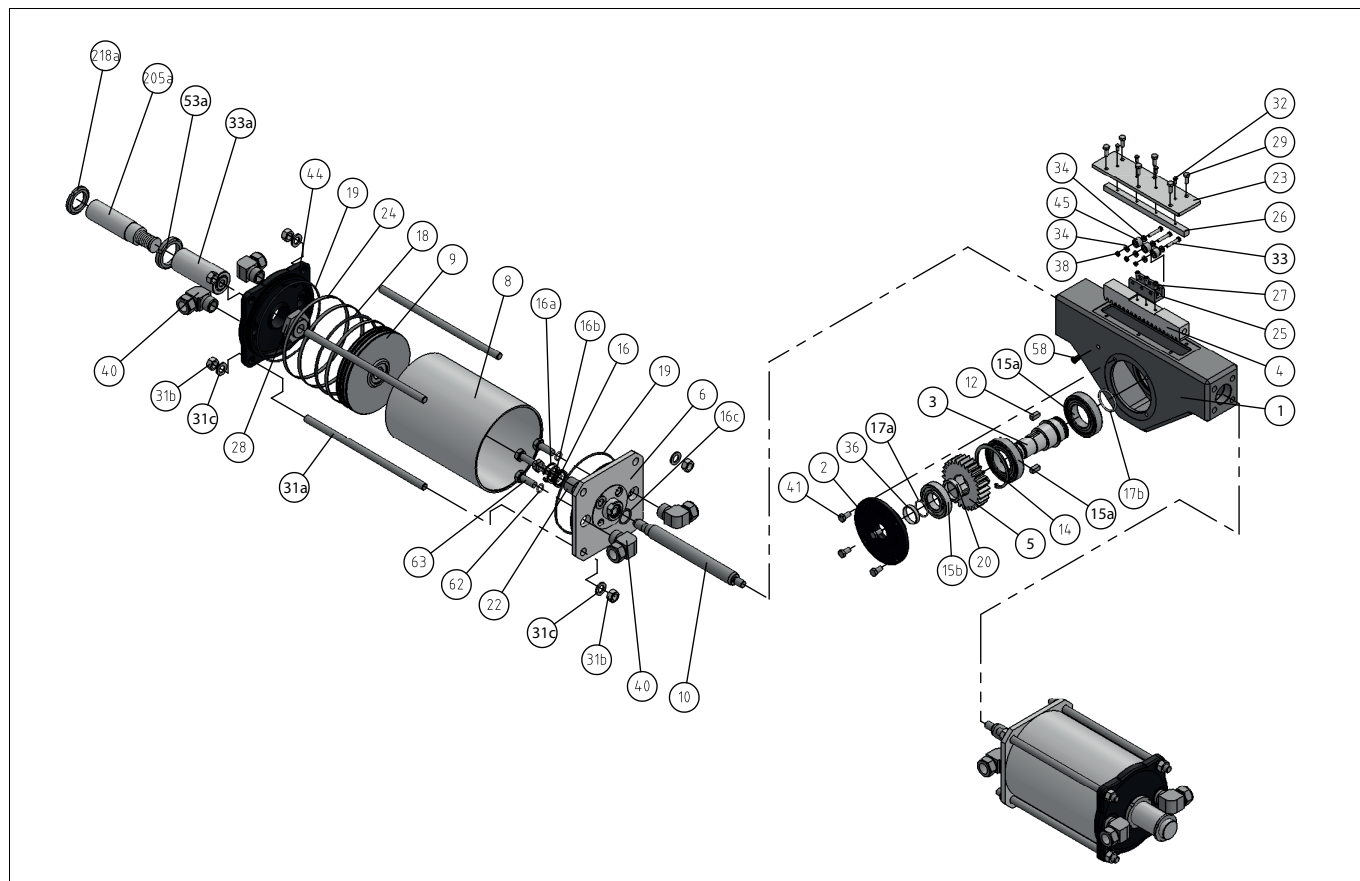
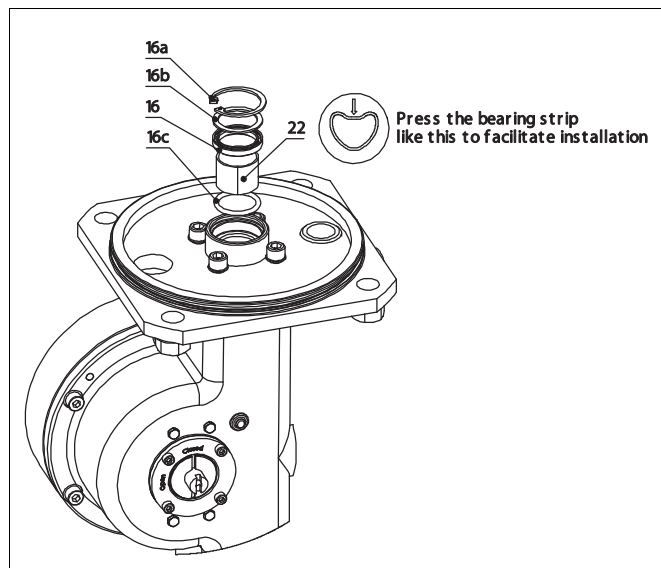

Fig. 6 Exploded view of the actuator GAAXH03_BC17.
Fig. 7 Mounting the piston rod bearing and seal
- Remove the cylinder pipe (8) and the piston (9).
- Loosen the fastening screws (31b) of the cylinder base (6) and remove studs (31a). See Figure 6.
- Loosen the hexagon screws (63) and remove the cylinder base (44).
- Lubricate the seal space and the new O-ring with Unisilikon L250L or equal silicone grease. Install the new bearing and O-ring and lip seal. See Figure 7.